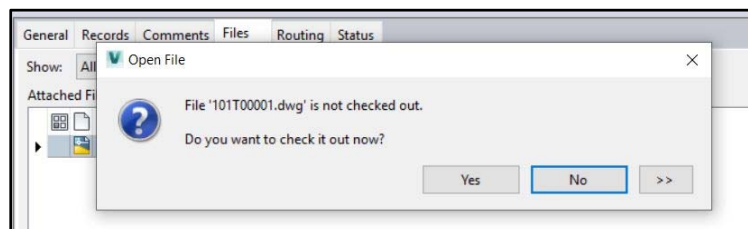

Figure 4-3, Dialogue Box
7. A dialogue box will open, asking if the drawing should be checked out. Reference Figure 4-3, Dialogue Box below